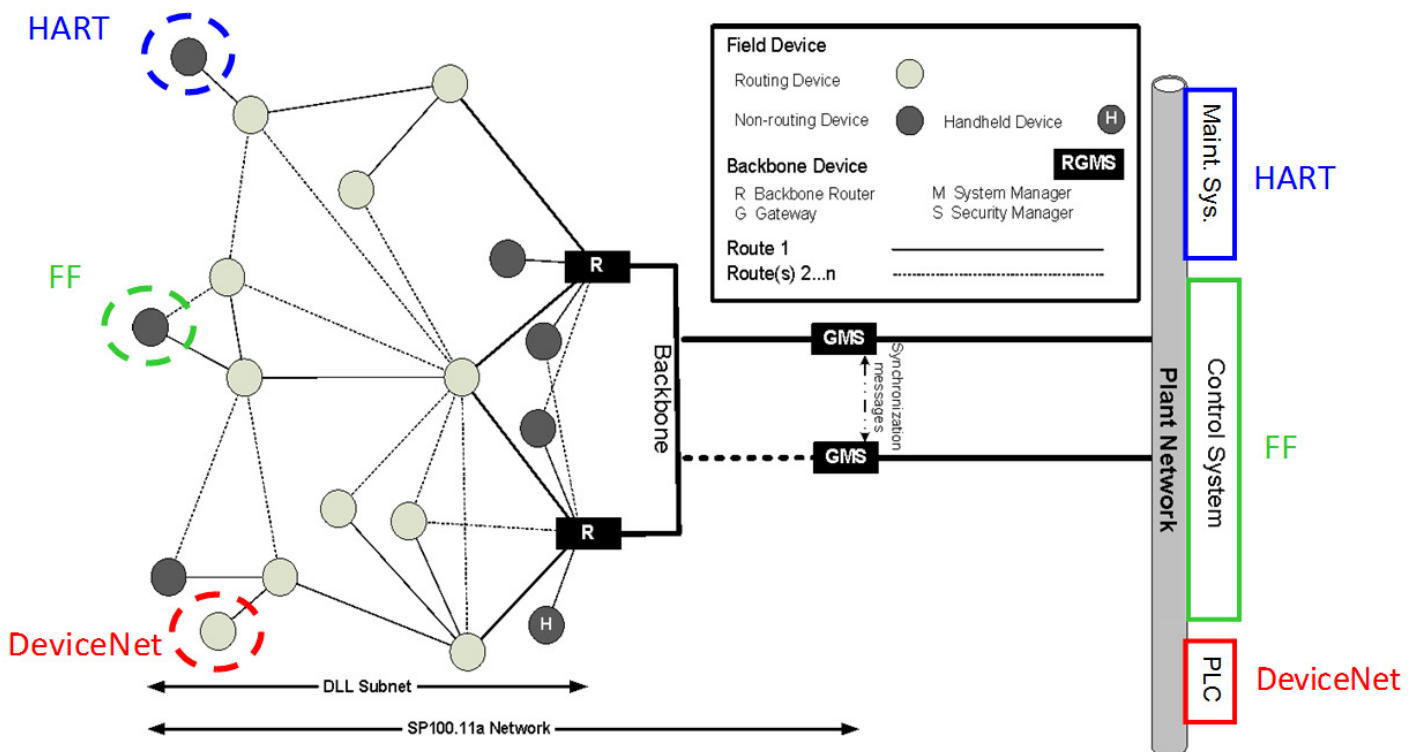

Figure 3: ISA100.11a architecture enables simultaneous, multi-protocols in devices and host
**Multifunctional** – The application layer of ISA100.11a is flexible, modular, extensible, object based, future proof, easily customizable, and able to accommodate a wide variety of applications. Multiple application protocols within a single wireless infrastructure such as HART, Foundation Fieldbus, Profibus, Modbus and OPC etc. can be supported, allowing easy integration with legacy systems. See figure 3.